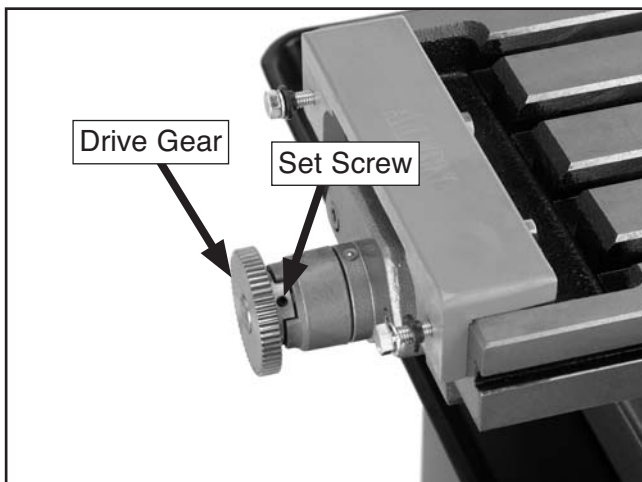

Figure 12. Attaching drive gear.
1. Attach the 2 $\frac{1}{4}$ " diameter drive gear to the left end of the longitudinal table leadscrew. The gear couplers on the drive gear and table leadscrew will lock together (**Figure 12**).